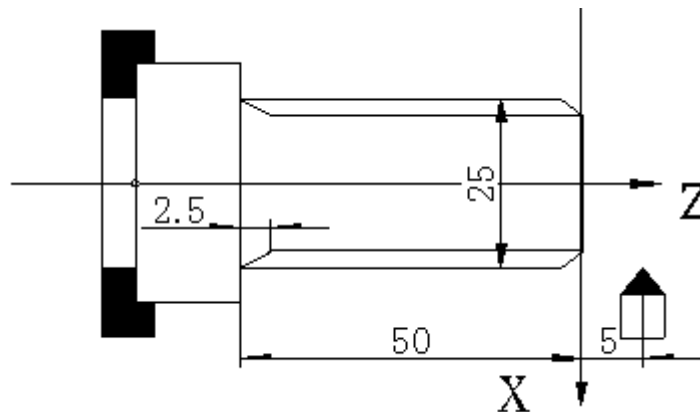

Fig. 4-13 Thread cutting
5) Comprehensive example: as Fig. 4-13
Example: thread lead: 2mm, cutting depth: 2.5mm(diameter value, cutting twice) as Fig. 4-13: